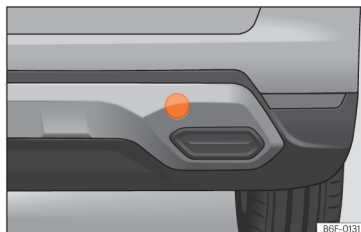

Fig. 166 Rear bumper on right: remove the lid.
The housing of the screw towing eye is on the right side of the rear bumper behind a lid >>> **Fig. 166**.
- Press the right hand side of the cover >>> **Fig. 166** to unclip it.